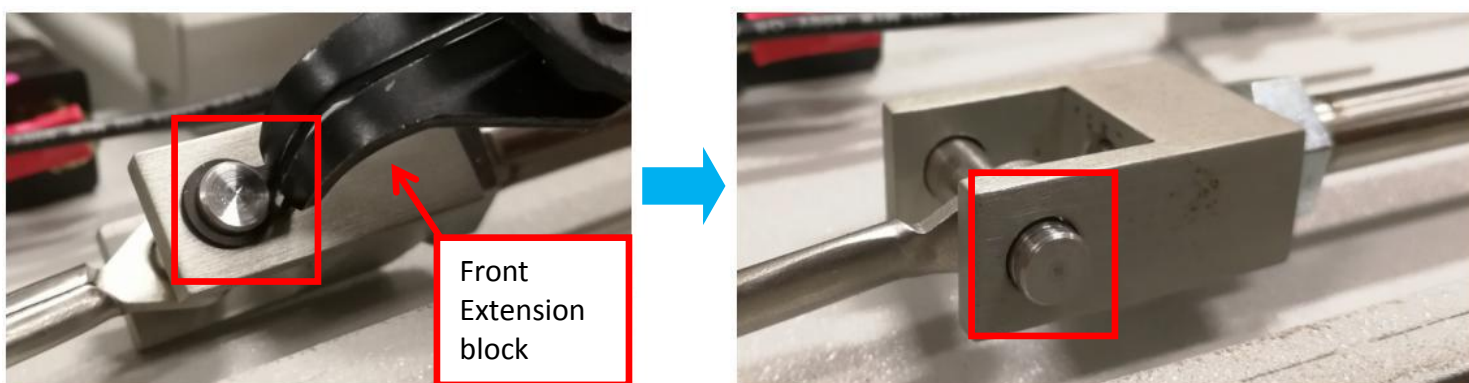

Figure 5
9. By using C-Clip Plier ,open 1 x C-Clip from dowel pin as Figure 5